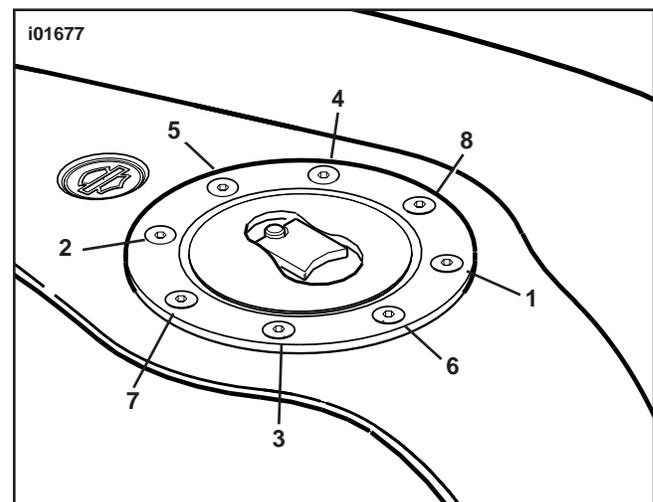

Figure 2. Tightening Flange
5. See Figure 2. Install the eight screws into the flange and tighten to 15-30 in. lbs. (1.7-3.4 Nm).